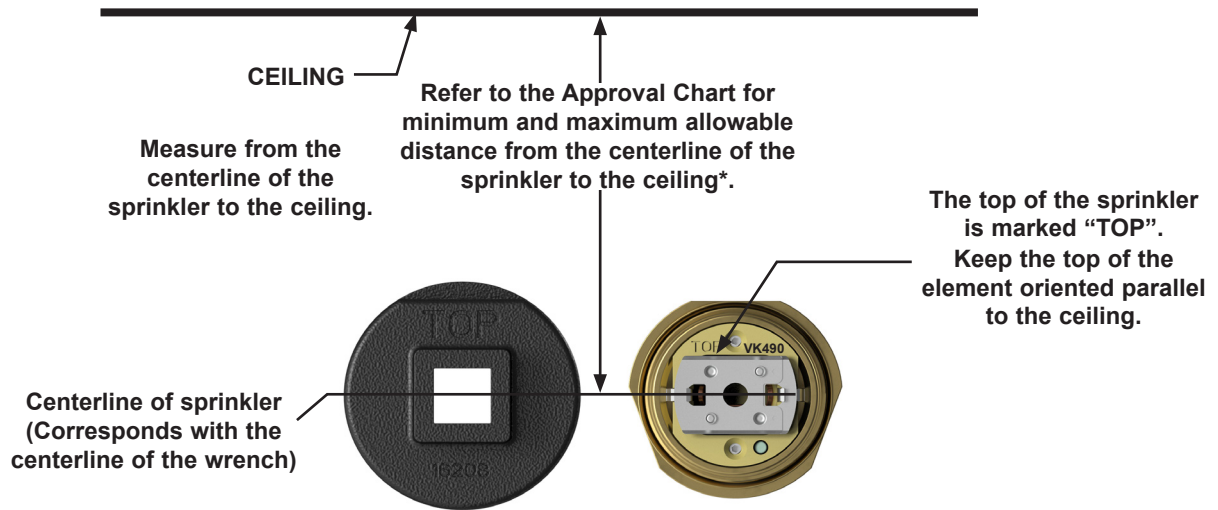

Figure 3: Sprinkler VK490 Correct Deflector Orientation
- **THE TOP OF THE SPRINKLER BODY AND THE TOP OF THE INSTALLATION WRENCH ARE MARKED “TOP”.** Orient the top of the sprinkler element parallel with the ceiling as shown in Figure 3.